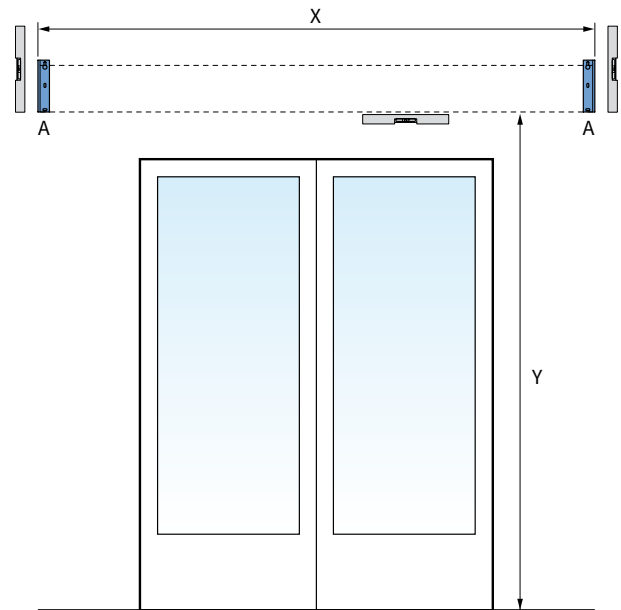

fig. 1.2 Placing the wall support
Mark the drill holes of the wall supports (A) carefully on the wall according to size X and size Y in figure 1.2. Make sure that the upper installation holes are in the middle of the stone. If necessary, use an alignment string.
1. Mark the position of the wall strips on the wall according to size X and Y in figure 1.2. The wall strips need to be, both horizontal and vertical, levelled. Make sure that the installation holes are in the middle of the stone. If necessary, use an alignment string.